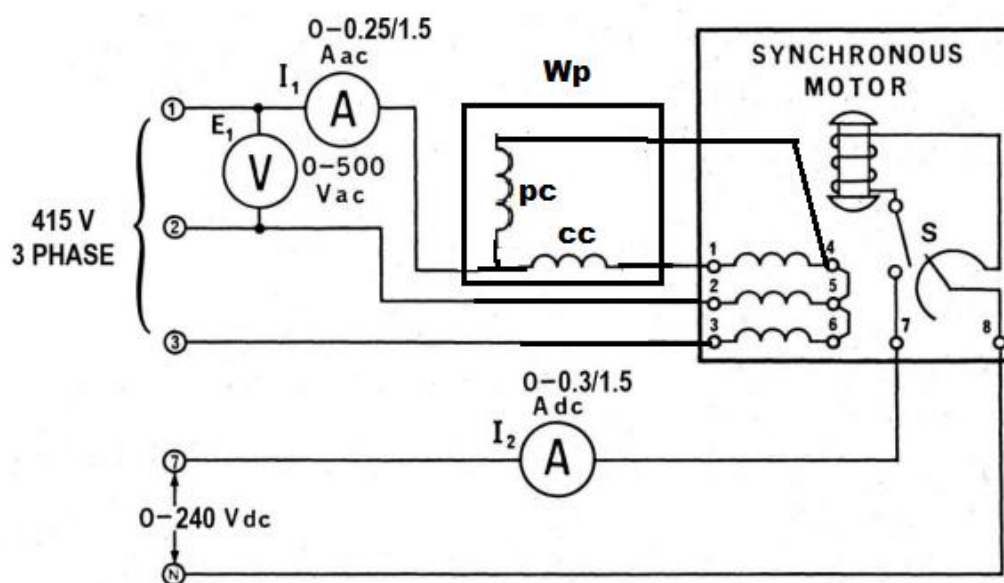

Fig. 5.1.: Connection diagram for obtaining V curve
1. Using your Three-Phase Synchronous Motor/Generator, Single-Phase Wattmeter, Power Supply, AC Ammeter, AC Voltmeter and DC Voltmeter/Ammeter, connect the circuit shown in Figure 5.1. Note that the stator windings are connected, through the wattmeter, to the fixed 415 V, 3-phase output of the power supply, terminals 1, 2 and 3. The rotor winding is connected, through the ammeter, to the variable 0-240 V dc output of the power supply, terminals 7 and N. The voltage adjust control knob should be at zero.